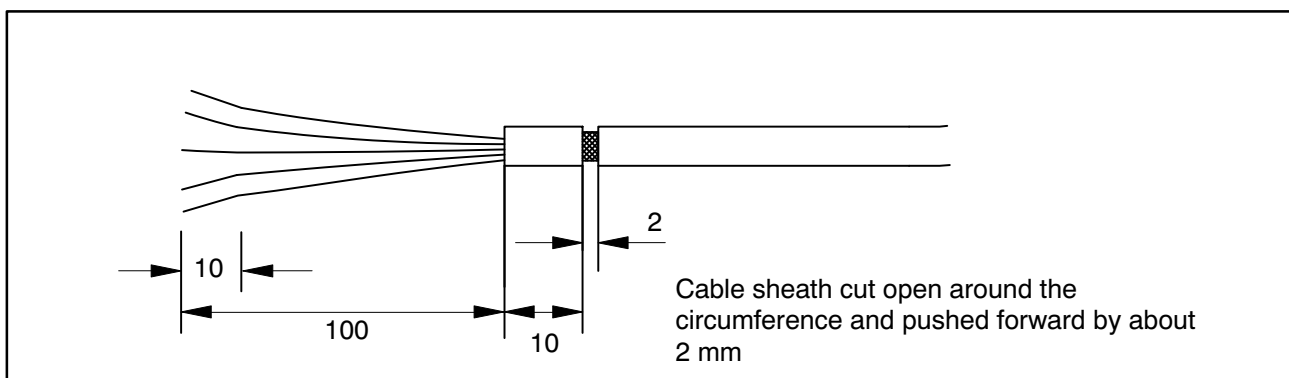

Fig. 6.2: Cable sheath with incision
1. Cut the cable sheath as shown in Fig. 6.2, to gain access to the shield.